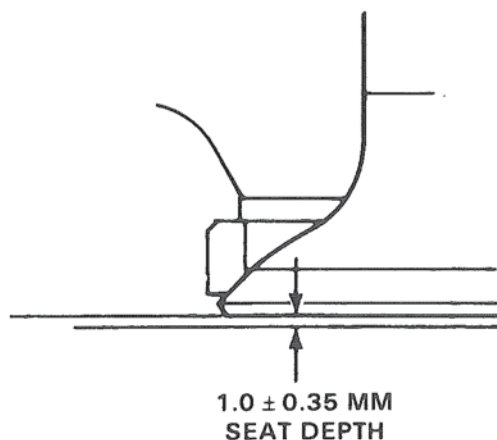

Figure 25. Checking Valve Seat Depth.
- A. Check seat depth by placing a **new** valve in head. Clean surfaces thoroughly. Measure the distance between head surface and valve face. Dimension must be 1.0 ± 0.35 mm. Figure 25. If dimension exceeds 1.35 mm., valve seat must be replaced.